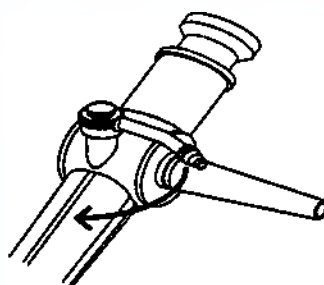

Figure 3. Removal of the exhaust valve from the bronchoscope
3.4) Removal of the exhaust valve from the bronchoscope (Figure 3)